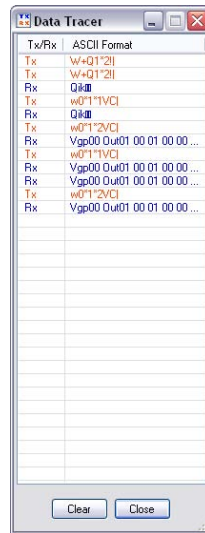

Figure 5-8 — Data tracer window
- **Data Tracer** — Selecting this opens a small window in which the transmit and receive (Tx/Rx) data between the control software on the host PC and the ISM 824 can be viewed in ASCII format (see figure 5-8). During data transmission and receipt, the data tracer window is constantly updated. To close the window click **Close** or the X in the window's top right corner.